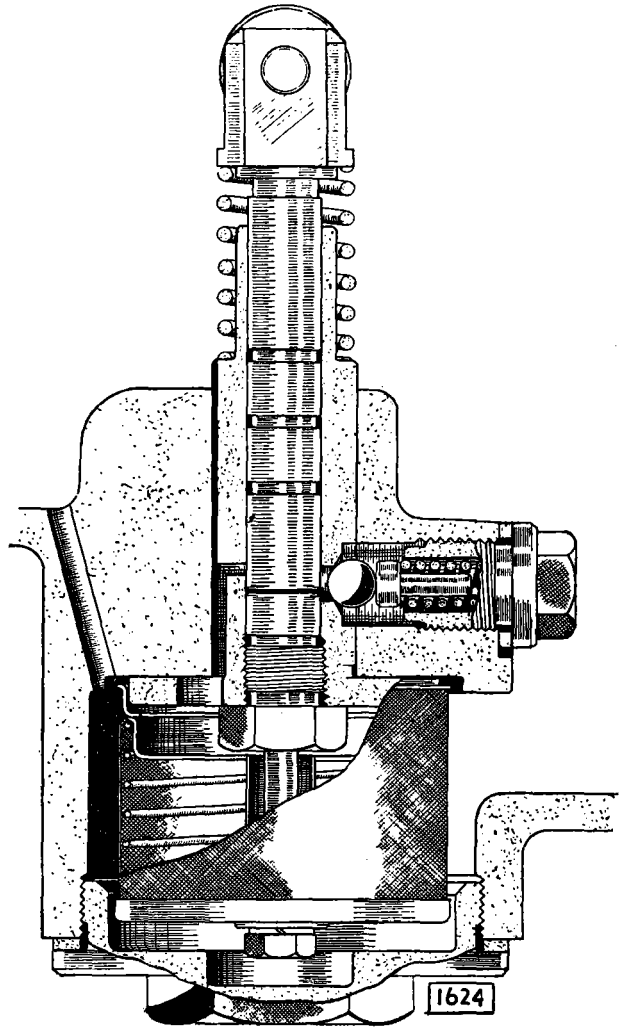

Fig. 34. The oil pump.
The pump (Fig. 34) is of the plunger type and delivers oil via a non-return valve to the accumulator. Possible sources of trouble are (1) failure of the non-return valve due to foreign matter on the seat or to a broken valve spring and (2) breakage of the spring holding the pump plunger in contact with the cam.